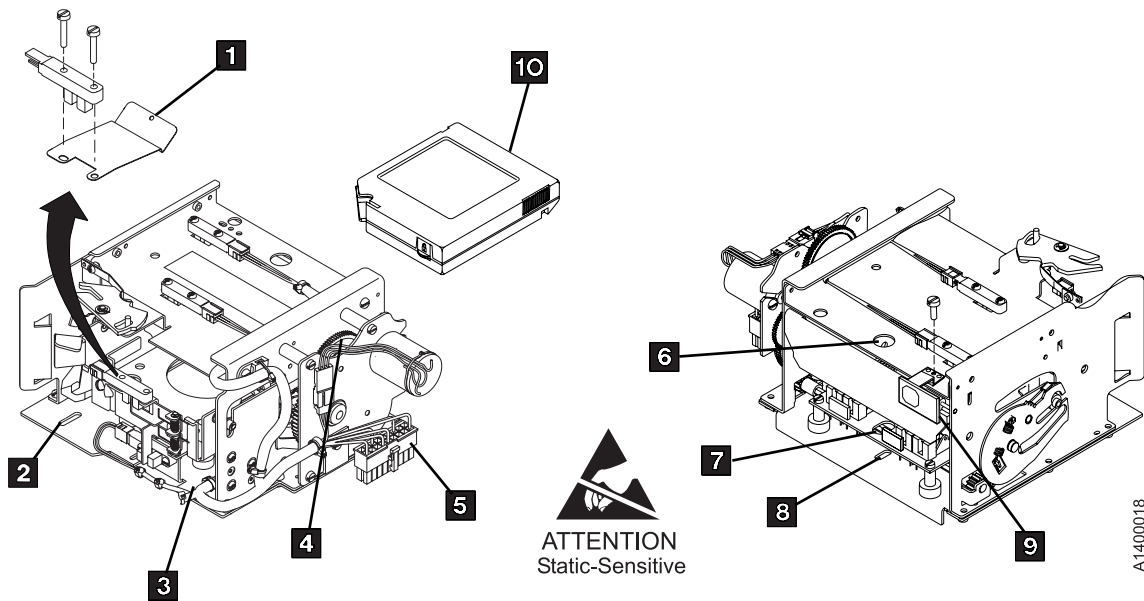

Figure 10-61. Loader Assembly (Former Cable)
1. There are two styles of loaders present in the field; one with the old style loader cable shown on Figure 10-61 on page 10-90 and one with a new, more reliable loader cable shown in Figure 10-62 on page 10-91. If you are asked to determine which loader is present, as part of the FRU isolation, refer to the cable in the area of screw items **2** and **3** to see the subtle difference. The new cable has a built-in loop with improved cable restraint for longer life.
5. See Figure 10-61 on page 10-90. Insert a cartridge **10** in the loader before you turn the loader gear to prevent bending the file-protect sensor.
10. See Figure 10-61. Disconnect cable **5**.
1. Perform the removal procedure in the reverse order, then return here. If the loader spring (**1** in Figure 10-61 or Figure 10-62 on page 10-91) was removed from a **Model B1A/E1A/H1A loader**.